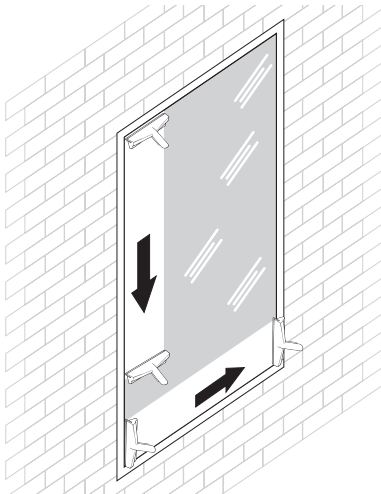

fig. 17
*To clean areas next to the floor surface, hold the squeegee horizontal (fig.17).*